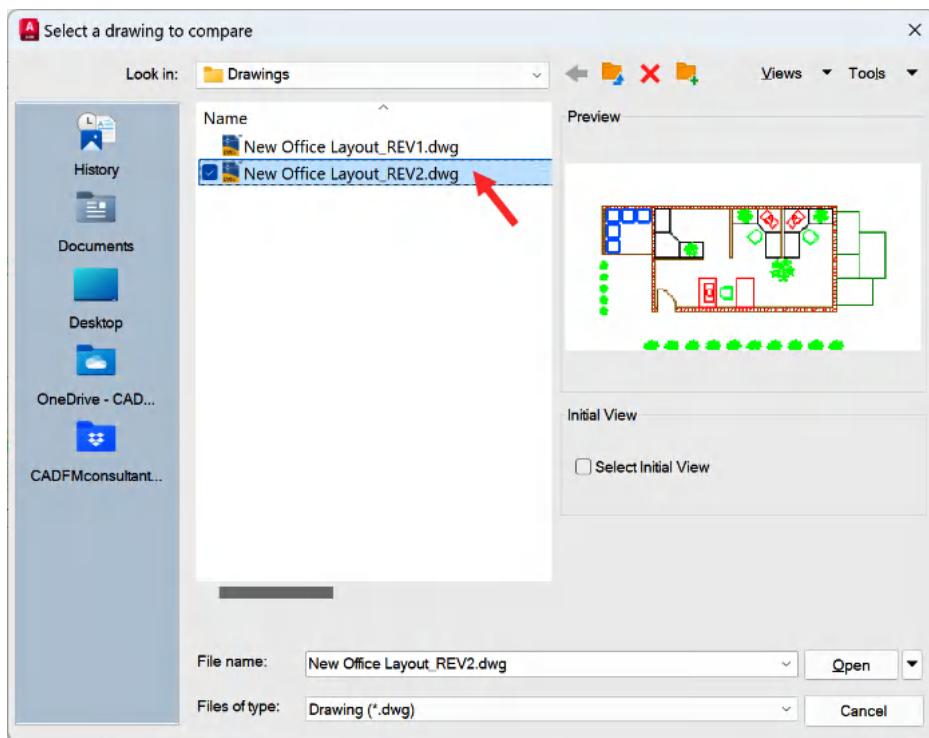

Figure 14.4: The Select a drawing to compare dialog box
3. The **Select a drawing to compare** dialog box will appear, as shown in *Figure 14.4*. Select the *New Office Layout\_REV2.dwg*. Once the file is selected, click on **Open** in the dialog box.